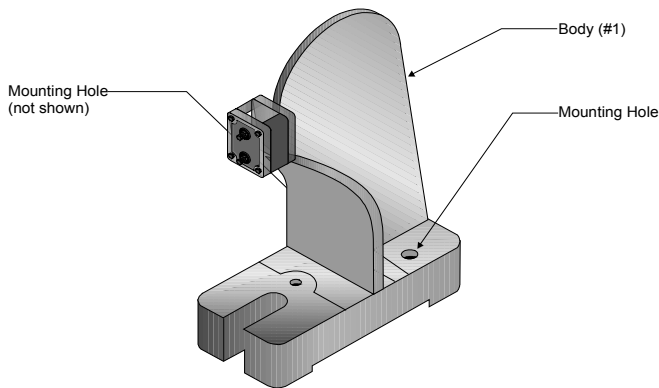

Figure 1 -- Location of Mounting Holes
3. Use the two mounting holes in the BODY of the Arbor Press as a template as shown in Figure 1. Mark and Drill holes in your workbench.